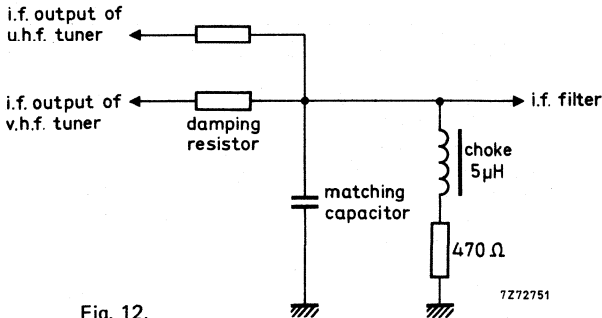

Fig. 12.
The tuner needs a d.c. path from the i.f. output terminal (T) to earth, preferably via a choke of approx. 5 μH outside the tuner (Fig. 12). Where the tuner is used in combination with a u.h.f. tuner, this choke can be common for both tuners; a resistor in series with the choke can make ineffective the i.f. output circuit of the switched-off tuner. For damping the i.f. output circuit and matching the i.f. output impedance of the tuner to the i.f. amplifier, a series resistor and a parallel capacitor as shown in Fig. 12 should be used (During v.h.f. operation the voltage across the 470 Ω resistor is 1 to 1,2 V).